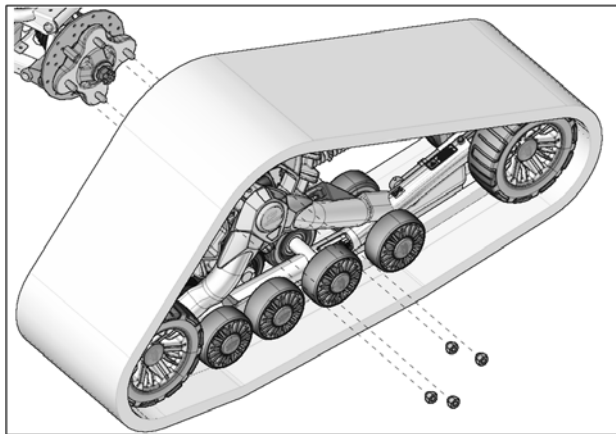

Fig. 12
9. Secure undercarriage to rear hub using the vehicle's wheel nuts. See Fig. 12
6. Using the vehicle's wheel nuts, secure undercarriages to front wheel hubs. The procedure and precautions are the same as for rear units. Refer to Fig. 12